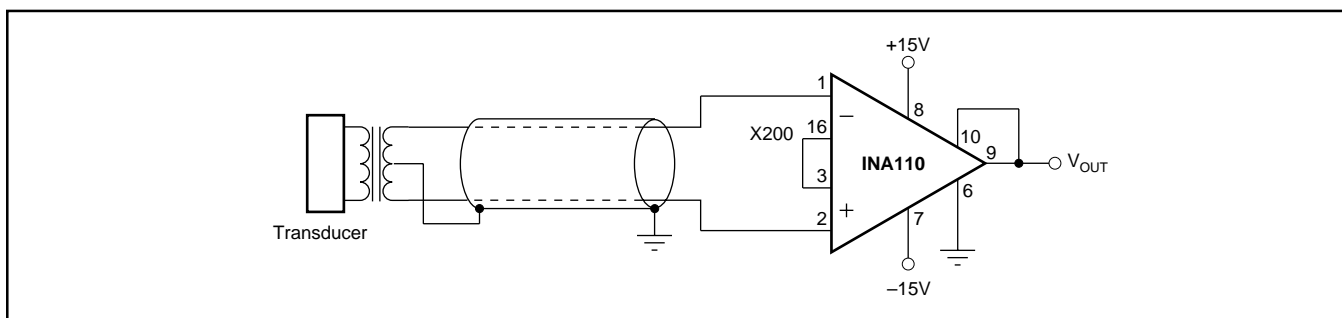

FIGURE 6. Transformer-Coupled Amplifier.
In addition to general purpose uses, the INA110 is designed to accurately handle two important and demanding applications: (1) inputs with high source impedances such as capacitance/crystal/photodetector sensors and low-pass filters and series-input protection devices, and (2) rapid-scanning data acquisition systems requiring fast settling time. Because the user has access to the output sense, current sources can also be constructed using a minimum of external components. Figures 6 through 19 show application circuits.